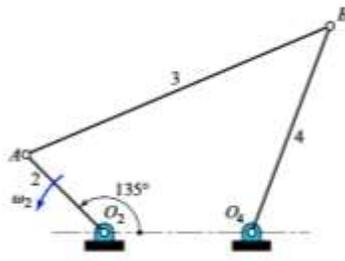

Figure 3
4. Locate Instantaneous centres for the mechanism shown in figure 3 CO2 [K2]